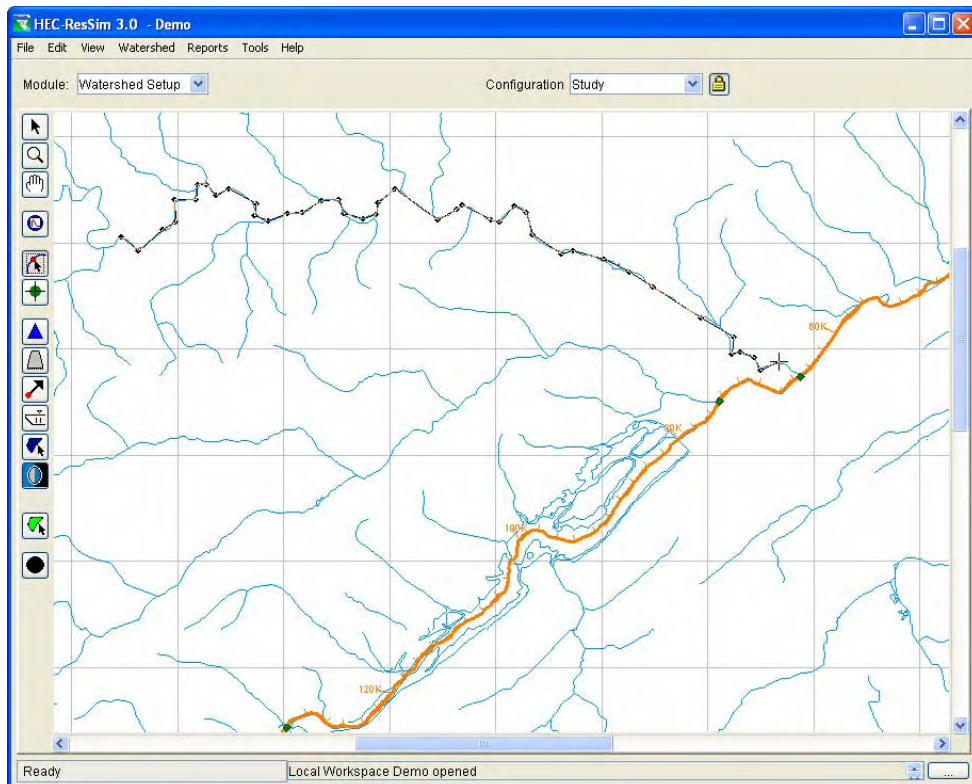

Figure 10 – Drawing a Stream Alignment
- **Create a Stream Alignment Element.** The Stream Alignment must be created *from upstream to downstream*. Select the stream alignment tool  from the tool bar along the left side of the map region. Hold down the control (**CTRL**) key and click to place successive points along the stream alignment. To terminate the stream element, release the **CTRL** key and click to place the last point of the stream. As shown in Figure 10, a tributary may be connected to a stream by following the same procedure as above and terminating the stream at the point of connection to the existing stream.